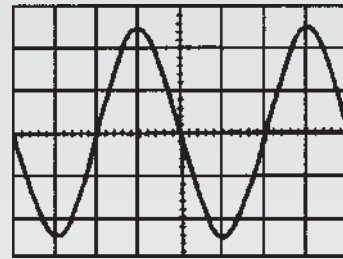

Figure RT3.1
1. A conductor, 25 cm long is situated at right-angles to a magnetic field. Determine the strength of the magnetic field if a current of 12 A in the conductor produces a force on it of 4.5 N. (3)
2. An electron in a television tube has a charge of 1.5×10^{-19} C and travels at 3×10^7 m/s perpendicular to a field of flux density $20 \mu\text{T}$. Calculate the force exerted on the electron in the field. (3)
3. A lorry is travelling at 100 km/h. Assuming the vertical component of the earth's magnetic field is $40 \mu\text{T}$ and the back axle of the lorry is 1.98 m, find the e.m.f. generated in the axle due to motion. (4)
4. An e.m.f. of 2.5 kV is induced in a coil when a current of 2 A collapses to zero in 5 ms. Calculate the inductance of the coil. (4)
5. Two coils, *P* and *Q*, have a mutual inductance of 100 mH. If a current of 3 A in coil *P* is reversed in 20 ms, determine (a) the average e.m.f. induced in coil *Q*, and (b) the flux change linked with coil *Q* if it is wound with 200 turns. (5)
6. A moving coil instrument gives a f.s.d. when the current is 50 mA and has a resistance of 40Ω . Determine the value of resistance required to enable the instrument to be used (a) as a 0–5 A ammeter, and (b) as a 0–200 V voltmeter. State the mode of connection in each case. (8)
7. An amplifier has a gain of 20 dB. Its input power is 5 mW. Calculate its output power. (3)
8. A sinusoidal voltage trace displayed on an oscilloscope is shown in Fig. RT3.1; the 'time/cm' switch is on 50 ms and the 'volts/cm' switch is on 2 V/cm. Determine for the waveform (a) the frequency (b) the peak-to-peak voltage (c) the amplitude (d) the r.m.s. value. (7)
9. With reference to a p-n junction, briefly explain the following terms: (a) majority carriers (b) contact potential (c) depletion layer (d) forward bias (e) reverse bias. (10)
10. Briefly describe each of the following, drawing their circuit diagram symbol and stating typical applications: (a) zenor diode (b) silicon controlled rectifier (c) light emitting diode (d) varactor diode (e) Schottky diode. (20)